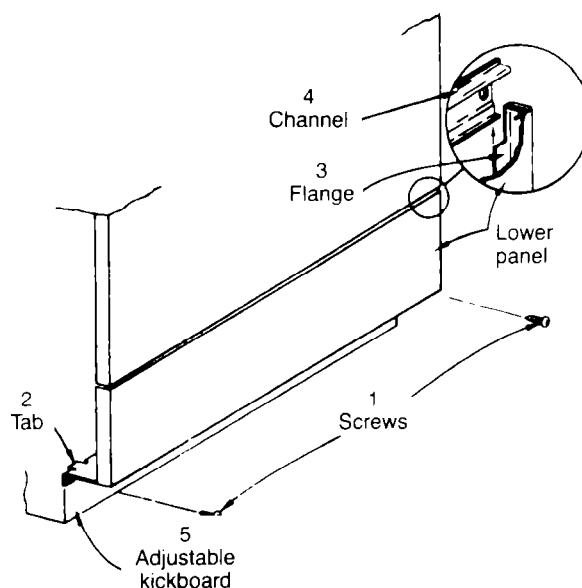

Fig. 19
The lower panel and adjustable kickboard (Fig. 19) must be replaced. Line up panel flanges (3) to fit under lip of channel (4). Slide panel up until it stops and then push up tabs (2) to hook over the frame. Secure the lower panel with two screws (1). Replace the kickboard using two screws (one with lock washer). Check to assure that the opening at the bottom of the kickboard is not obstructed (e.g., by carpet, molding, etc.). This area must be open to provide air circulation to cool the motor.